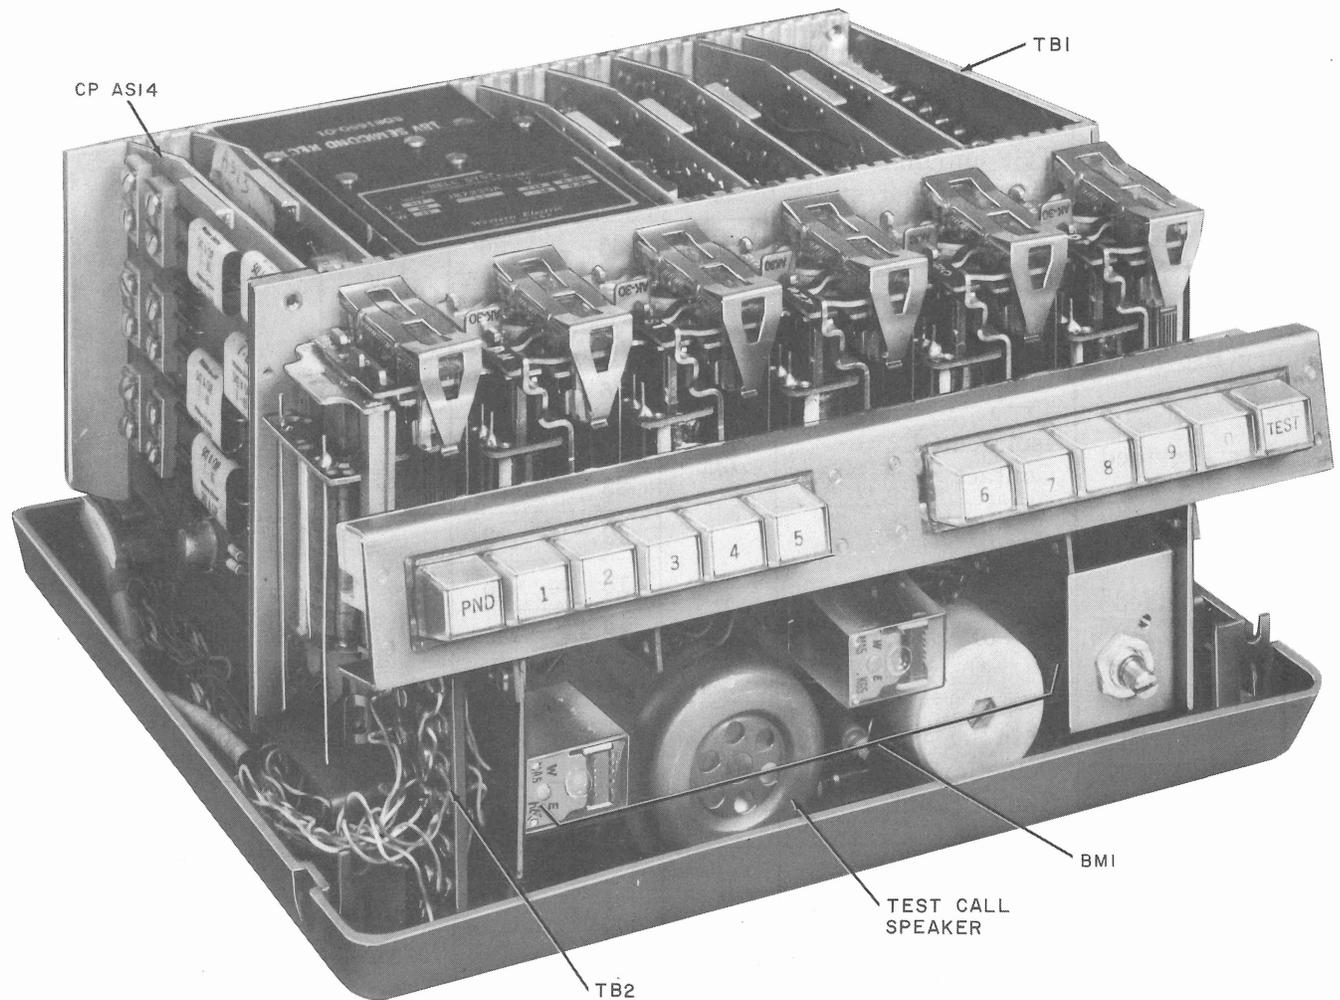

Fig. 4—Data Auxiliary Set 801A-Type, Inside View
3.01 ACU options must be specified on the service order. Use Fig. 4 for location of TB1, TB2, and CP AS14 for strapping locations. Strap the options per Table A. Options shown in Table A apply to both Data Auxiliary Set 801A5 and 801A6.